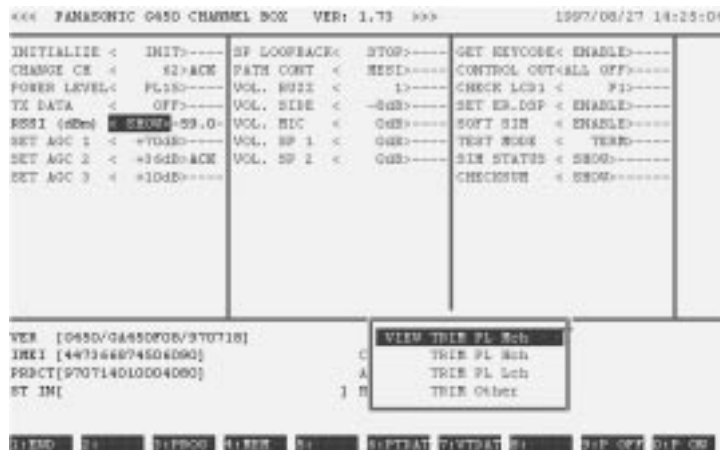

Figure 16: RSSI reading 1
7. Figure 16 At the C press 7 select TRIM other. Make a note of the RSSI on the measure channel reading press ESC.